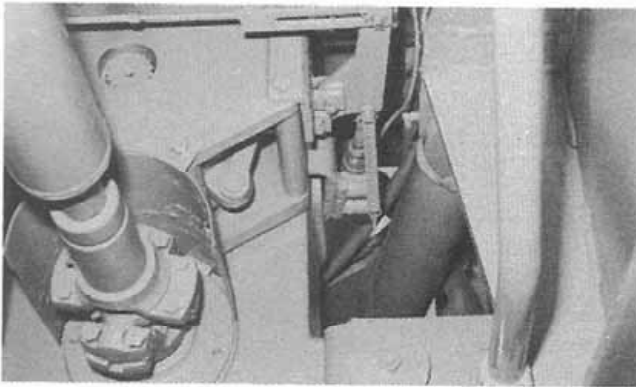

Figure 14:
17. Reinstall the park brake cable with bracket and yoke (Fig. 14). Ensure that full brake application and retraction are permitted after installation.